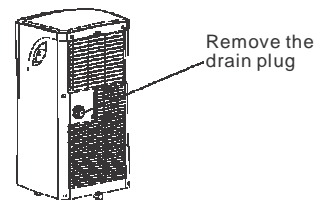

Fig.21
- During dehumidifying modes, remove the drain plug from the back of the unit, install the drain connector(5/8 " universal female mender) with 3/4" hose(locally purchased). For the models without drain connector, just attach the drain hose to the hole. Place the open end of the hose directly over the drain area in your basement floor. Please refer to Fig.21 & 22.